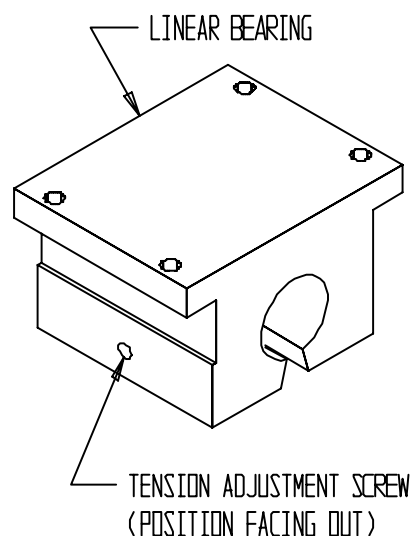

FIG. 6A
3. Slide the new bearing on the shaft with the tension adjustment screw pointing outward. See FIG. 6A. Adjust the tension screw of the linear bearing so when you radially rotate the bearing around the shaft there should be no free play between bearing and shaft.